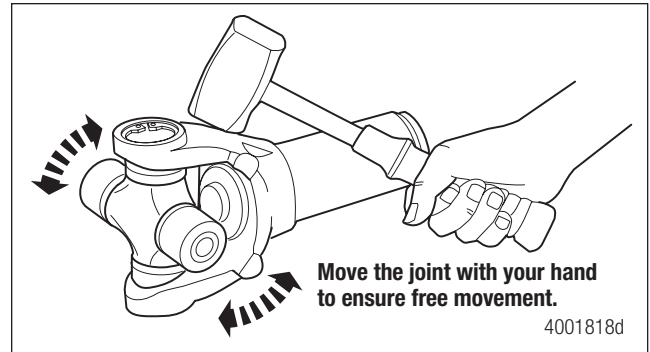

Figure 9.20
8. Strike the yoke ear with a brass or copper hammer to ensure that the universal joint moves freely. Figure 9.20.